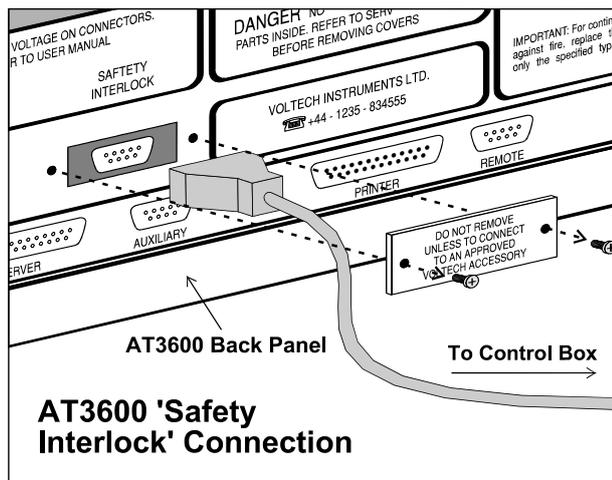

Figure 8
10) Connect the d-type connector to the AT5600's interlock port (see Figure 8).